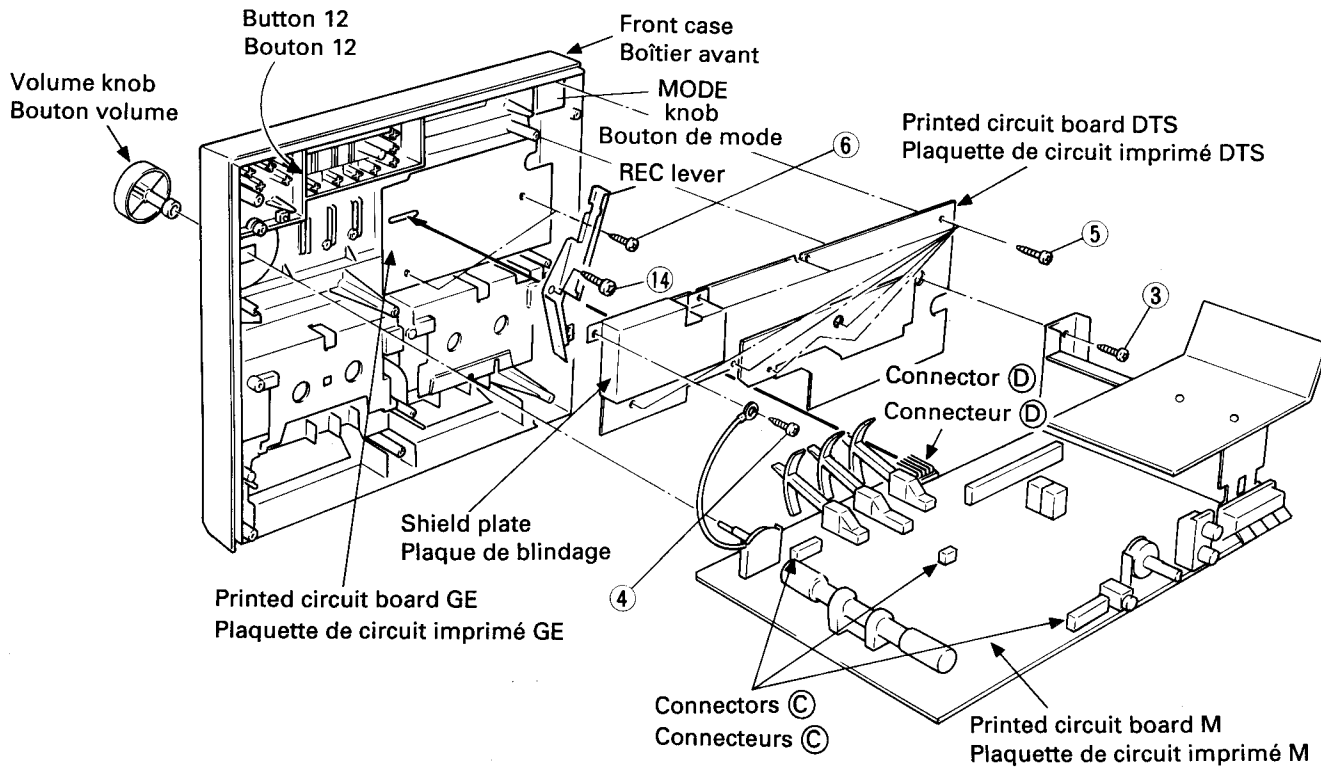

Fig.3
Remove the screw ⑤ and pull off the REC lever. Disconnect the three connectors ⑥ and pull off the Volume knob. Remove the screw ⑦ holding the heat-dispersion fin. Remove the screw ⑧ holding the shield plate and the lug terminal protruding from the printed circuit board M. The printed circuit board M is now free. When removing the printed circuit board M, take care not to damage the connector ⑨ which connects it to the printed circuit board GE. (Fig. 3)
Remove the seven screws ⑩. The printed circuit board DTS can now be removed from the shield plate. (Fig. 3)
The mode knob and button 12 can be removed. (Fig. 3)
la borne à cosse dépassant de la plaquette de circuit imprimé M. La plaquette de circuit imprimé M est ainsi libérée. Lors du retrait de la plaquette de circuit imprimé M, prendre soin de ne pas endommager le connecteur ⑨ qui la raccorde à la plaquette de circuit imprimé GE. (Fig. 3)
Retirer les sept vis ⑩. La plaquette de circuit imprimé DTS peut maintenant être séparée de la plaque de blindage. (Fig. 3)
Le bouton de mode et le bouton 12 peuvent être retirés. (Fig. 3)